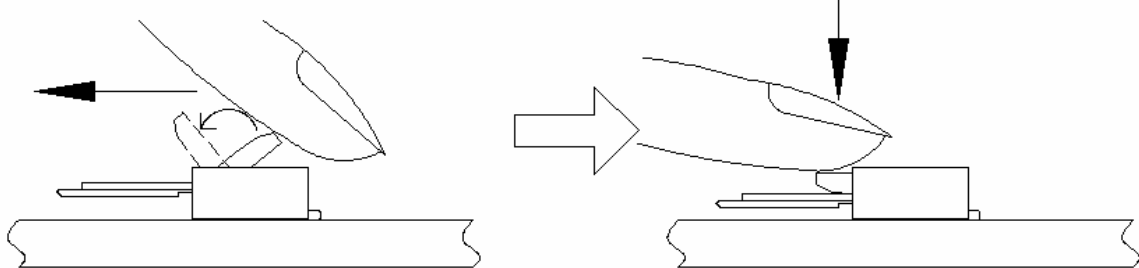

Figure 4.
- 3) Rotate down the actuator(Lock) until firmly closed. It is critical that the inserted FPC is not moved and remains fully inserted. Should the FPC be moved, open the actuator(Lock) and repeat the process, starting with Step 1(see figure 4).